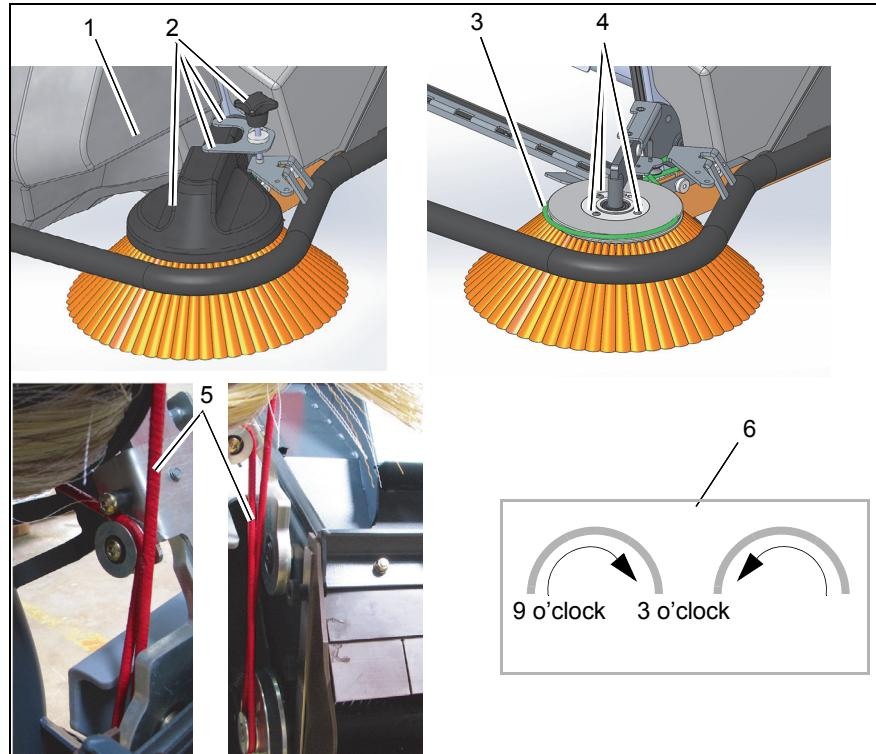

Fig. 10
1. Switch off the machine and remove the dirt hopper (Fig. 10/1).
2. Remove both M6x16 flanged button head bolts, the brush adjuster and the cover (Fig. 10/2).
3. Remove the round belt from the side brush (Fig. 10/3).
4. Loosen the 3 screws of the side brush (Fig. 10/4) and remove.
5. Fit the new side brush in the reverse order. Pay attention to the run of the belt (Fig. 10/5).
- Compared to a clock, the sweeping level must be from approx. 9 o'clock to 3 o'clock on the floor (Fig. 10/6).